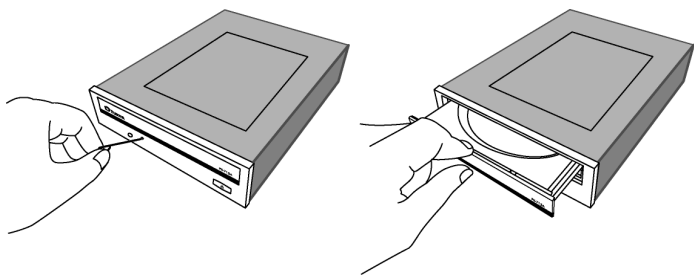

Figure 25: Emergency eject
3. Use the emergency eject tool or a paper clip to open the tray drawer as illustrated in Figure 25 above.